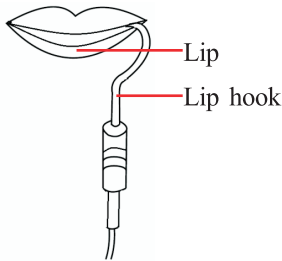

Fig. 4.2 Hang the lip hook on the lip
4.2.3 Hang the lip hook on the lip, make sure it contact the oral mucosa as a reference electrode. (Fig. 4.2)
4.2.5 The apical position is located to the place when the apex locator screen indicates '00', when the file reaches the apical position, adjust the rubber piece set of the file to the reference point (incisal edge or fossa edge), then pull out the file, measure the length between the file tip and the rubber piece, and the length is the working length of the tooth. It also can use the touch probe instead of file clip, when it is inconvenient to measure the back teeth. (Fig.4.2)